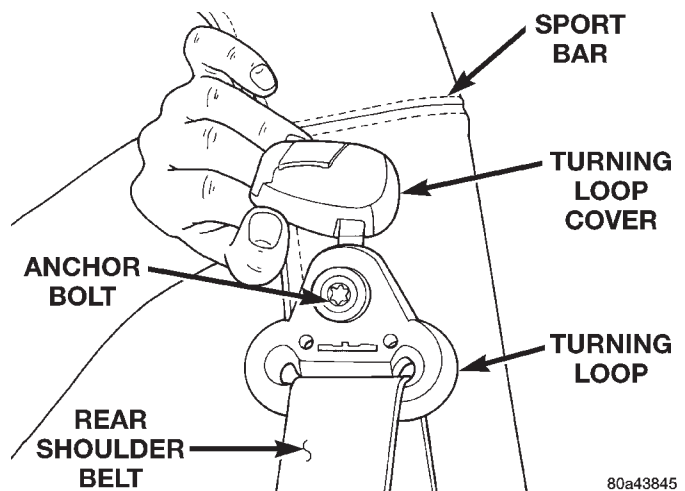

Fig. 56 Turning Loop
- (4) Remove the bolt attaching the turning loop to the sport bar (Fig. 56).
- (5) Remove the bolt attaching the retractor to the sport bar.
- (6) Separate the belt assembly from the vehicle.